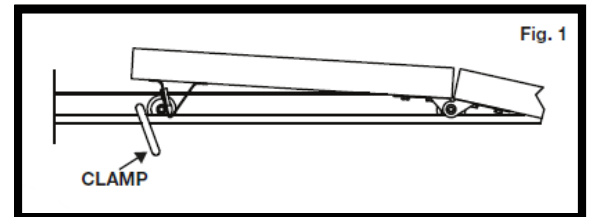
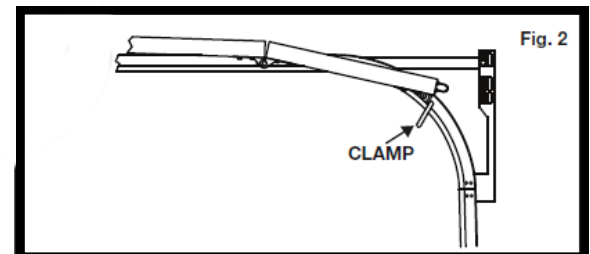

Fig. 1
Fig. 2
1. **STEP 1:** Unplug garage door opener and manually disconnect opener from the door, if applicable. Open garage door to full open position. Secure door in this position by placing a vice grip or C-clamp above top roller (Figure 1). Place another vice grip or C-clamp below bottom roller (Figure 2) to keep door from moving.